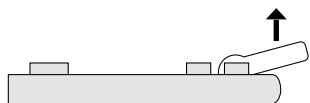

Fig. No. 52
2. Once the enclosure is opened, remove the plastic tab inserted between one of the battery terminal and battery slot contact (see Fig. No. 52).